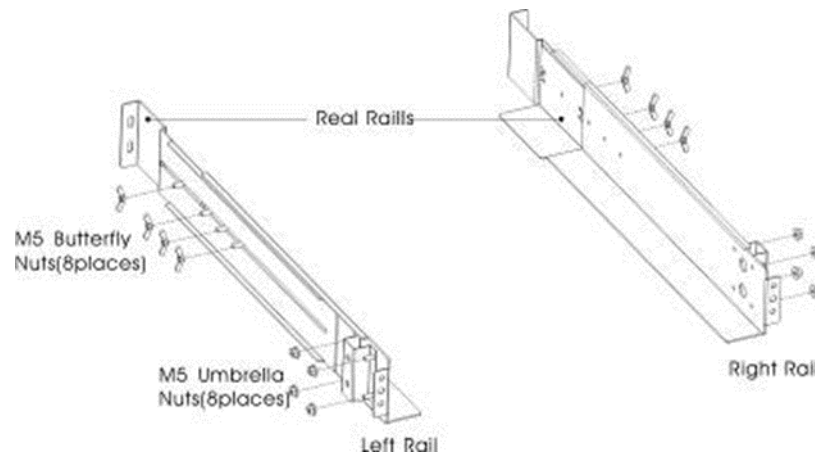

Figure 1: Securing the rails
(1) How to install the rail kit
- a) Assemble the left and right rails to the rear rails as shown in Figure 1. Do not tighten the screws. Adjust each rail size for the depth of your rack.
- c) Tighten four M5 Umbrella Nuts in the side of rail assembly (see Figure 1).